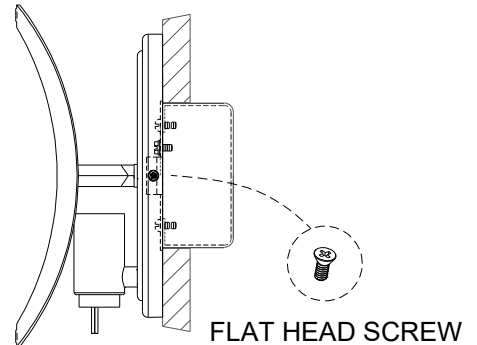

FIGURE-03
5. Attach the backplate to the mounting ring with wing and secure it with flathead screws (See FIGURE-03)